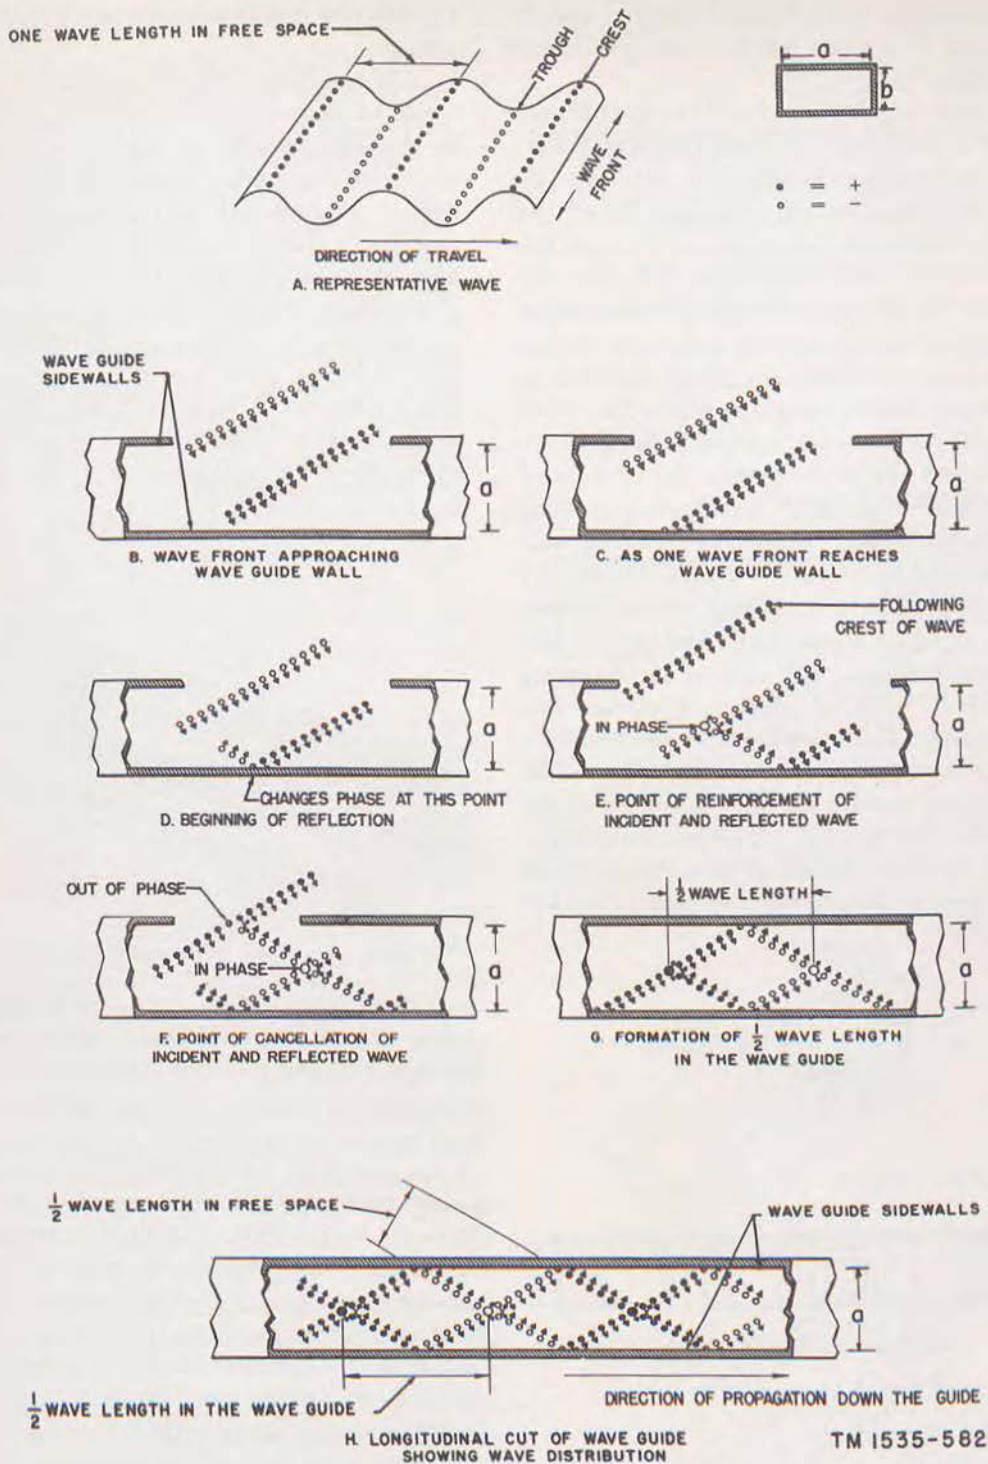

Figure 23. Electric waves in wave guide.
fig. 23). The successive crests and troughs lie in parallel planes that move through space with the speed of light. Wave length is the measure of distance between successive crests or troughs.
of energy striking a flat reflecting surface such as the side of a section of rectangular wave guide (B and C, fig. 23). At the points of reflection, the field intensity of the waves passes through zero, and the reflected waves undergo a phase reversal
so that the incident crests become reflected troughs (D and E, fig. 23) and the incident troughs become reflected crests.
*c. Intersection of Reflected and Incident Waves.* The reflected crests and troughs intersect the incident crests and troughs along lines parallel to the reflecting surface. At the intersection of two troughs, the intensity is twice that of a single incident or reflected crest or trough (F, fig. 23). Where a crest and trough intersect, the intensity is zero. The distance between the reflecting surface and the regions of double amplitude depends on the wave length and the angle at which the waves strike and reflect from the surface. As the incident and reflect waves progress, their points of intersection move parallel to the reflecting surface.
*d. Double Reflection.* If another reflecting surface were placed parallel to the first, the energy could be confined to a relatively narrow space, dimensions of which would be determined by the points of intersection. The row of intersections nearest the first (original) reflecting surface has double intensity. The second row of intersections of crests with troughs has zero intensity. The second reflecting surface actually is placed along this latter row (G, fig. 23). The resulting wave pattern (H, fig. 23) consists of zero electric field intensity at both reflecting surfaces and of double
*f. Limits of Distance Between Reflecting Surfaces.* The distance between successive intersections of incident and reflected crests is known as the guide wave length (H, fig. 23) and is greater than that of a wave length in free space because of the limits set by the reflecting surfaces. The guide wave length increases as the reflecting surfaces are moved closer together, because the angle of incidence must decrease to maintain the double intensity intersections at the center. When the distance between surfaces is equal to a half wave length in free space, the angle of incidence is zero and the wave guide wave length is infinite. This is the minimum permissible separation of reflecting surfaces to have the wave propagate in the  $TE_{1,0}$  mode.